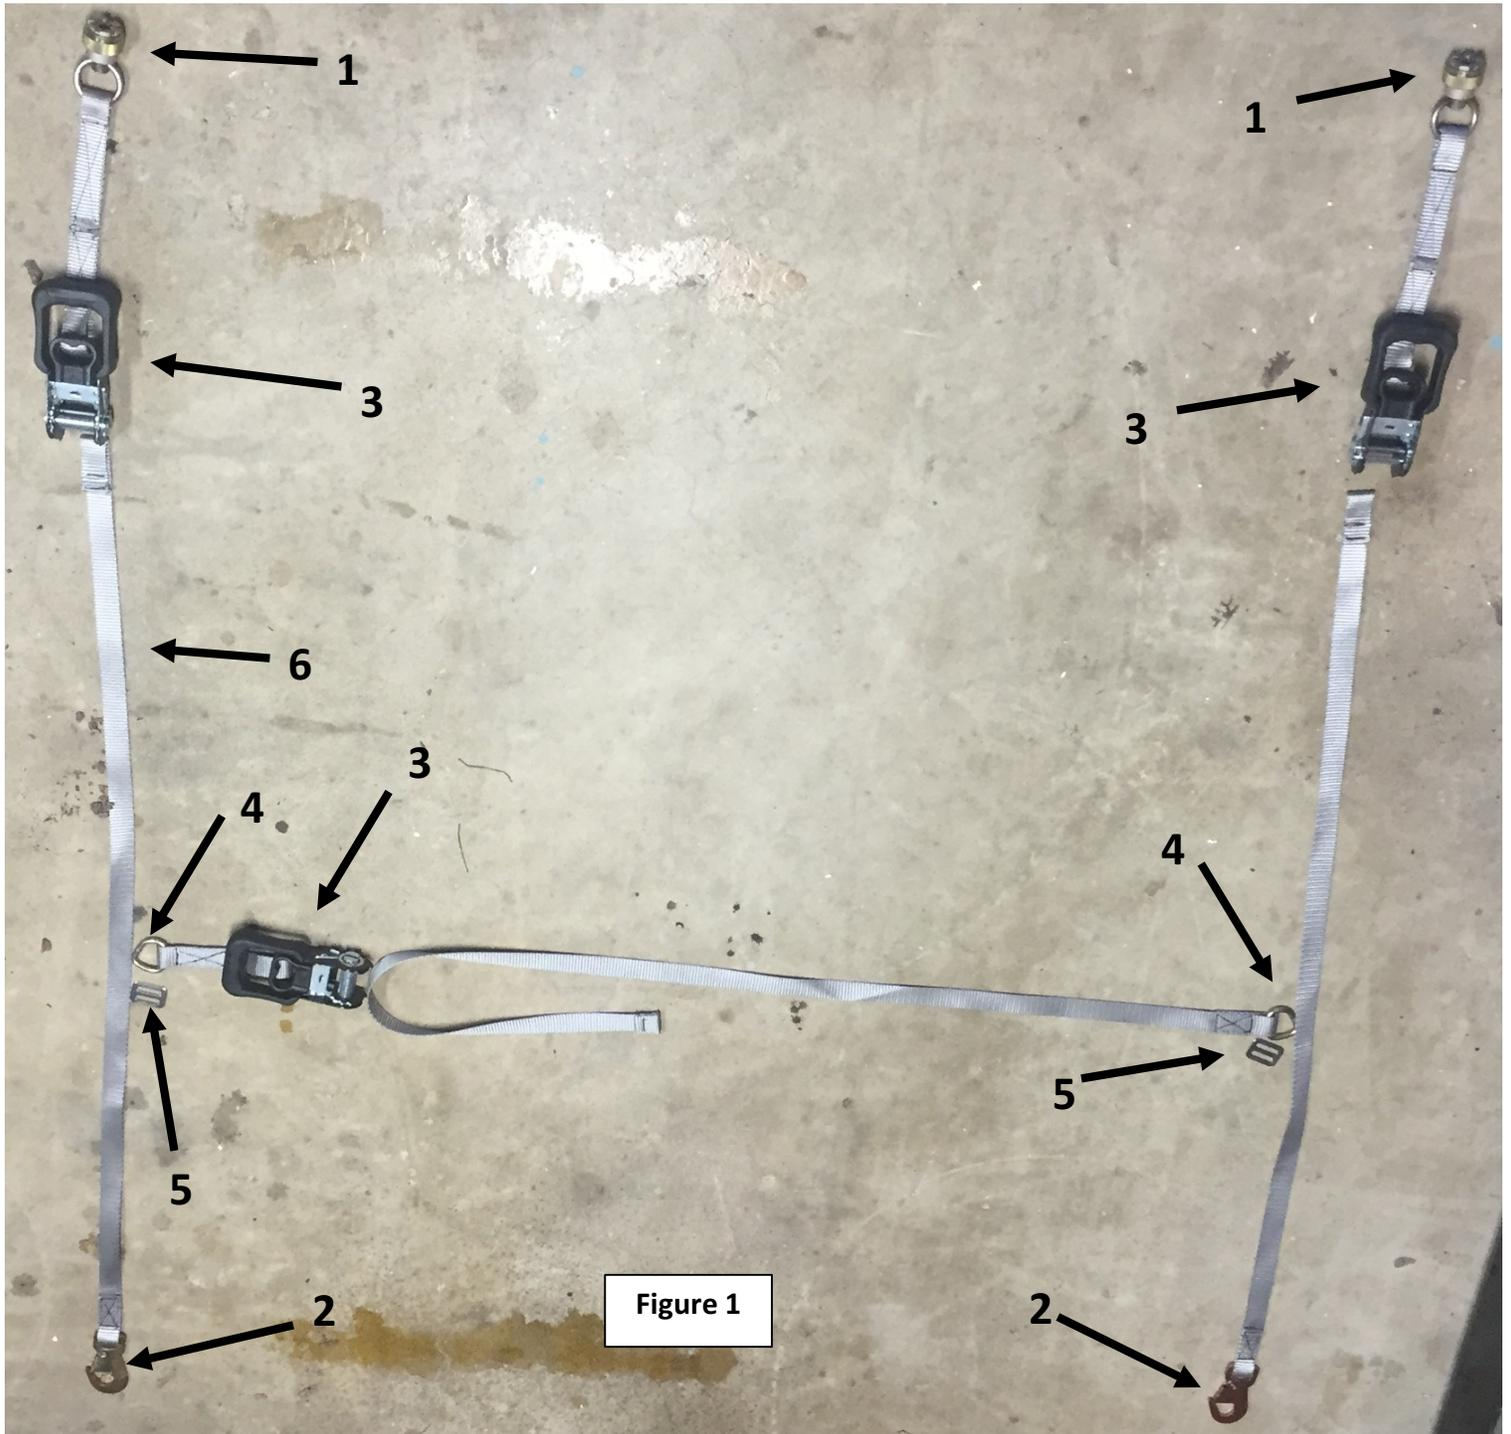

Figure 1
1. Lay out the rig in the cabin of the aircraft and orient it for the door which you will be shooting out of. The ratchet on the horizontal strap will be closest to the tail of the aircraft. The rig should generally look like Fig. 1. If you are setting this up after using it, ensure you loosen all of the ratchets and take out any twists.